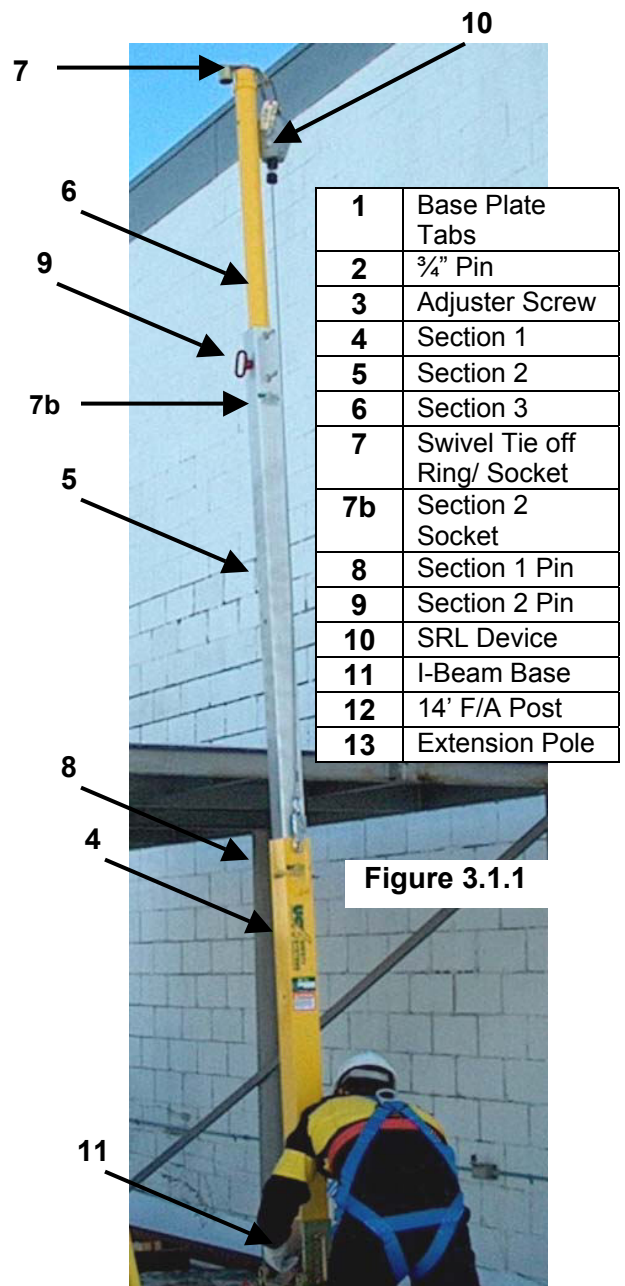
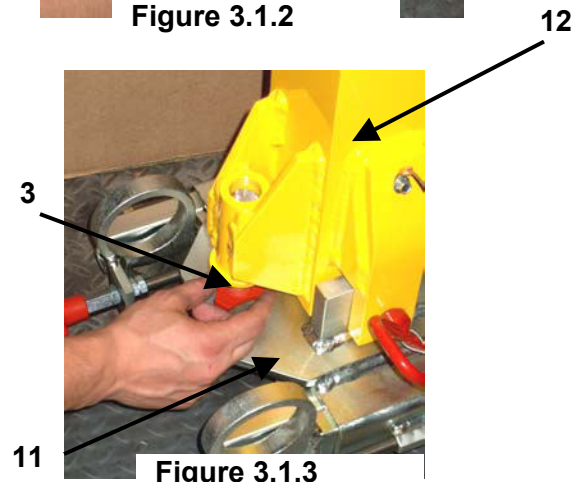

Figure 3.1.1
Figure 3.1.3
Step 5: The Portable 14' Fall-Arrest Post (Fig. 3.1.1) must be in a vertical position at all times when it is being used as a Fall-Arrest anchor point. Depending on the type of base you are using the Post may be leveled by using the adjuster screws (3) the base plate (11) or a combination of these, shown in Figure 3.1.3. The adjuster screws are alternately loosened and tightened to level the Post.